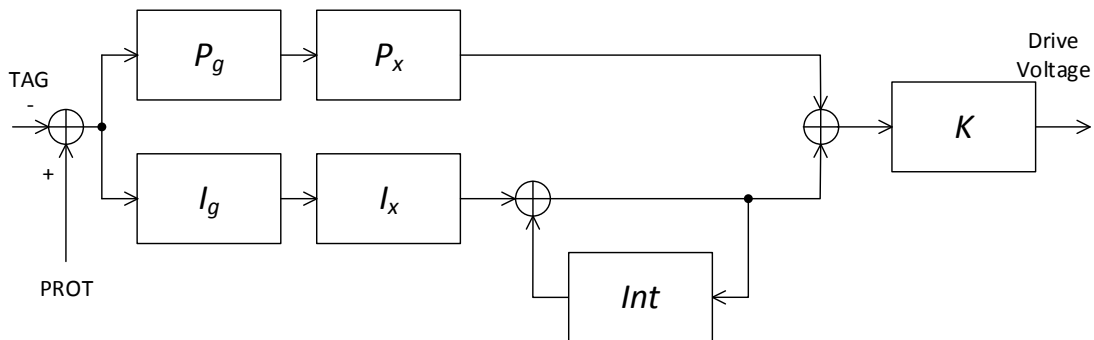

Figure 16: PI Speed Controller Block Diagram
Closed loop motor rotation speed controller (PI) is provided. The block diagram is shown in Figure 16. Where,